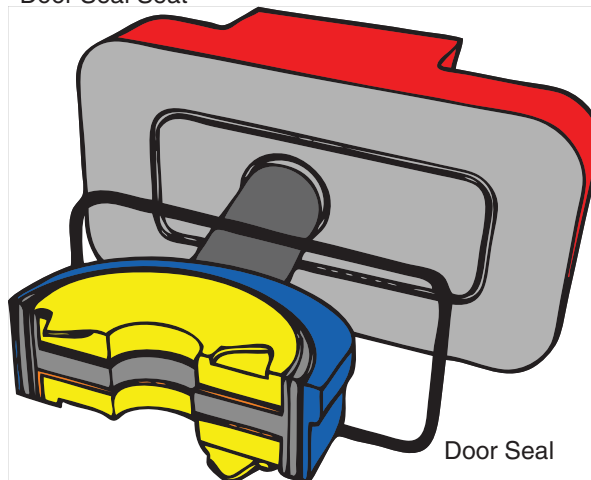

Figure 4-3. Removing the Door Seal
- ❑ Remove the door seals (see Figure 4-3).
3. Remove the door seal from its seat (see Figure 4-3 on page 4-5).